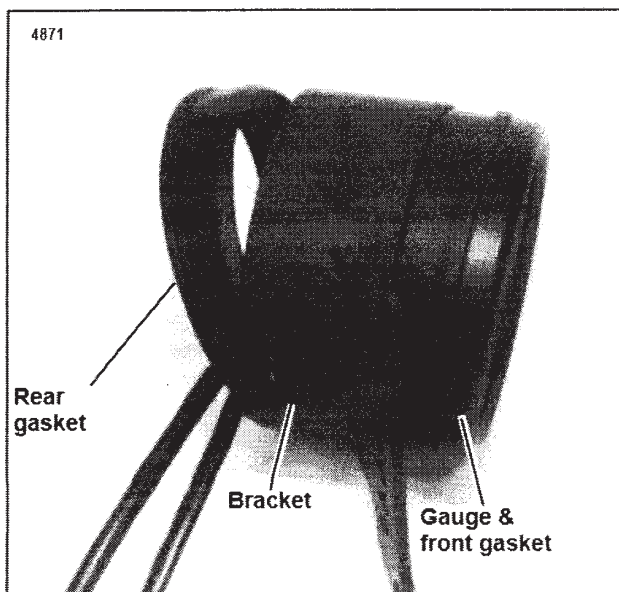

Figure 4. Speedometer Front and Rear Gaskets
1. See Figure 4. Remove rear gauge gasket. Push on rear of gauge while simultaneously pulling gauge and front gasket from bracket.
4. See Figure 4. Position wire harness under gasket, to gauge.
7. If speedometer does not function, see Figure 4 or 6 and check that all wiring connections were correctly made.